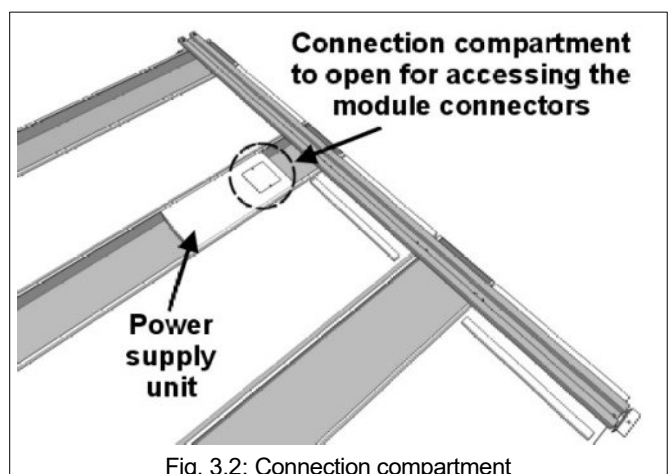

Fig. 3.2: Connection compartment
1. Locate the module containing the power supply unit (see Fig. 3.2); using a Phillips screwdriver, open the connection compartment containing the module connectors (Fig. 3.5).